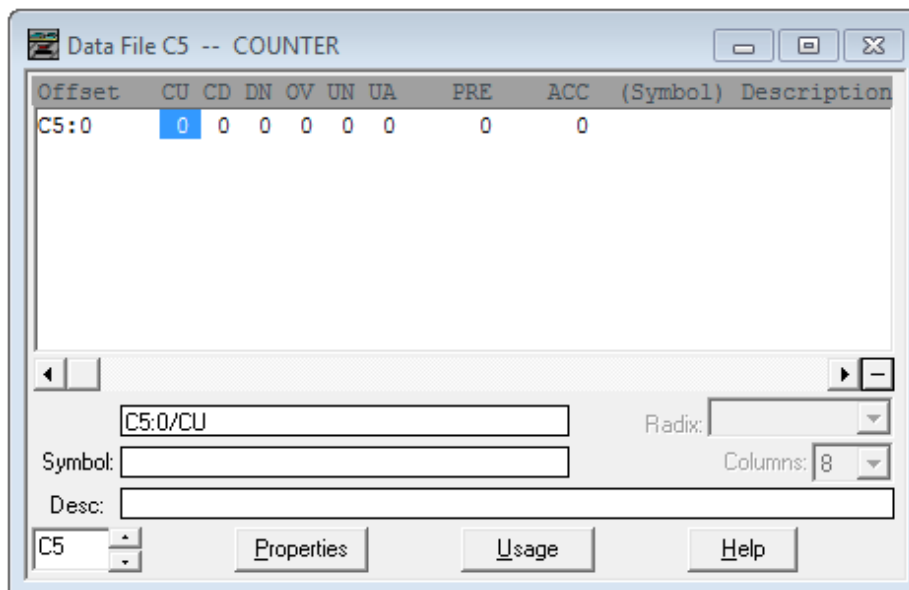

Figure 1.
- The item selected in Figure 1 is displayed as C5:0/CU in RSLogix 500.